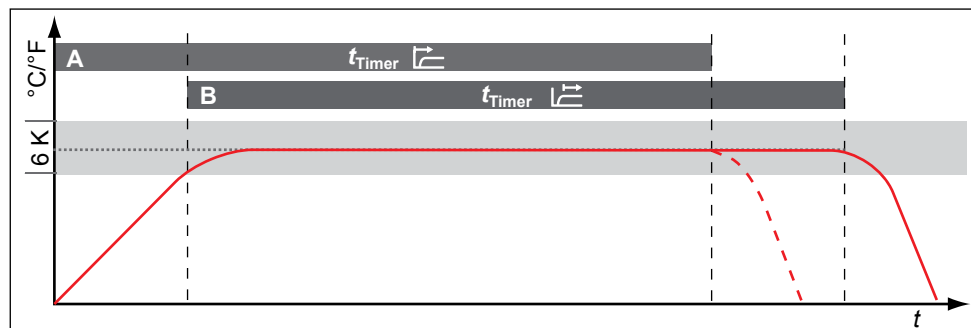

Fig. 24 Timer mode
For universal ovens UNPLUS/UFPLUS and incubators INPLUS/IFPLUS, you can choose if the timer (see page 27) should run setpoint-dependent or not – this determines if the timer should not start until a tolerance band of  $\pm 3$  K around the set temperature is reached (Fig. 24, B) or if it should start right after activation (A).